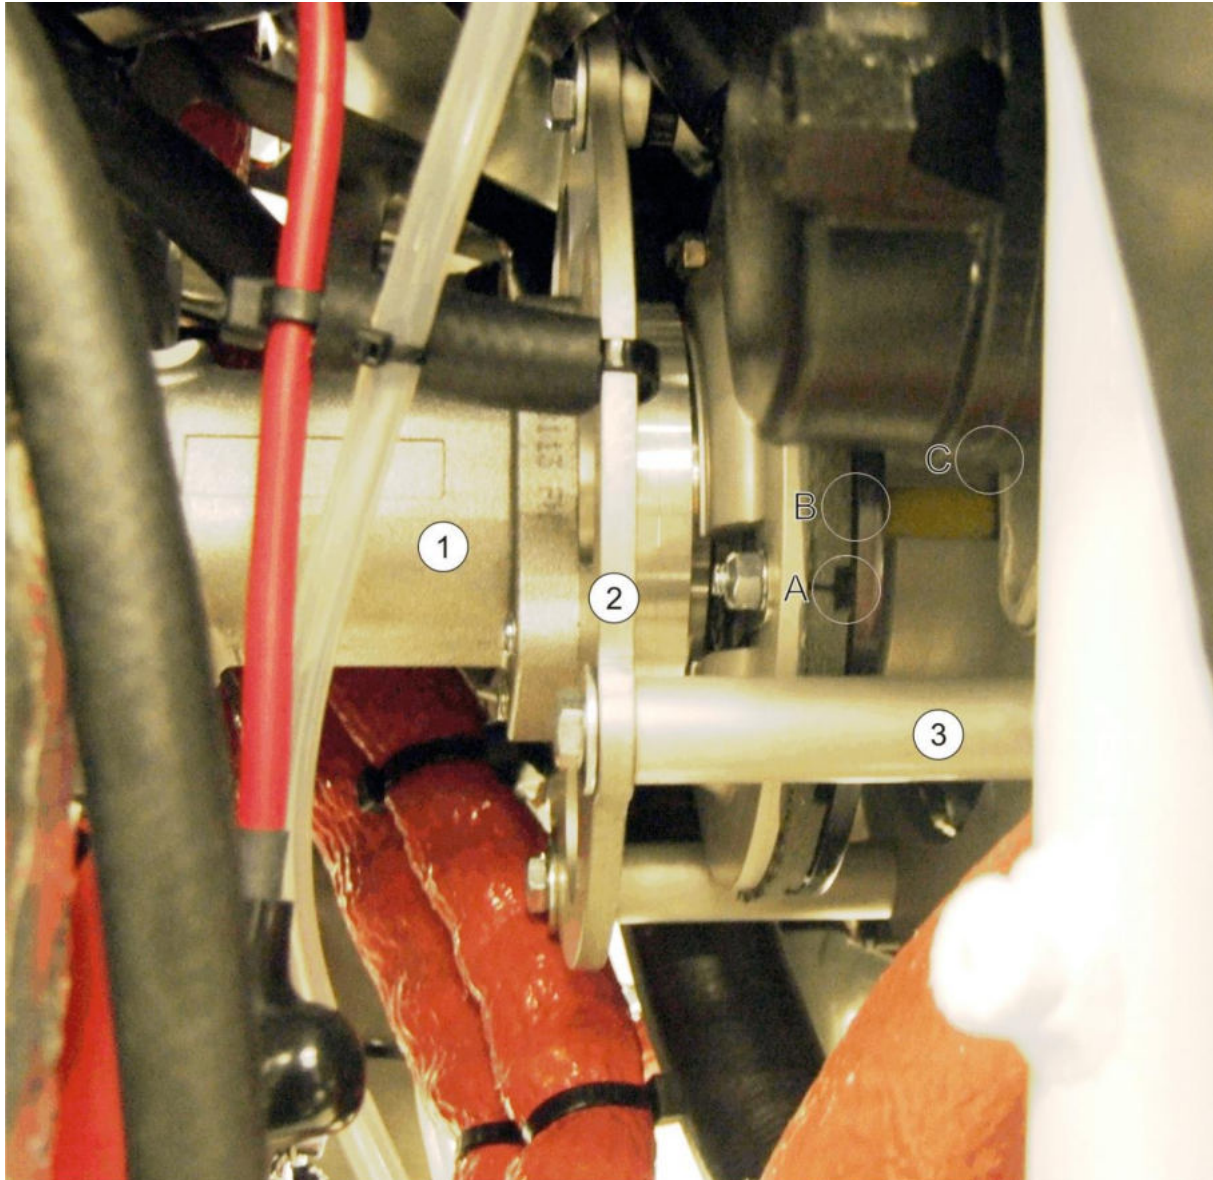

Fig. 1 - Pre-rotator coupling with attach ring
- 1 Check wear state of coupling lining. Wear mark (groove in the lining) must be recognizable. See Fig. 1, dimension A. Replace coupling if necessary.
- 2 Measure clearance between coupling lining and coupling plate. See Fig. 1, dimension B. Clearance must be between 1.0 - 1.5 mm. In case clearance is less than 1 mm or more than 1.5 mm contact AutoGyro Technical Support.
- 3 Measure clearance between inner (engine side) drive star disc and outer (coupling side) drive star claws. See Fig. 1, dimension C. Clearance must be between 0.5 - 1.0 mm. In case clearance is less than 0.5 mm or more than 1.0 mm contact AutoGyro Technical Support.